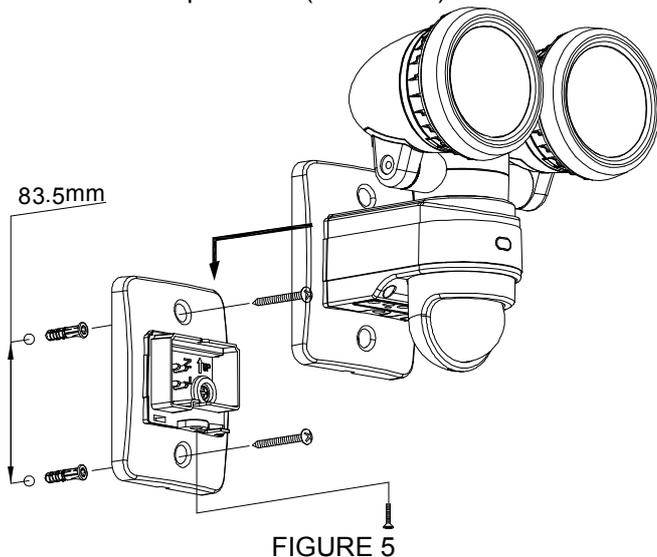

FIGURE 5
- (3) Use a bradawl to punch a small hole in the cable grommet, enabling the supply cable to enter the wall box.
- (4) Route the supply cable through the cable grommet. A drip loop is required between the wall box and the wall to avoid water ingress.
- (5) Determine the correct location to mount the floodlight. Use the wall box as a template to mark the fixing holes on the wall. Drill the holes and insert the plastic wall plugs supplied. Fix the wall box using the screws provided. (FIGURE 5)